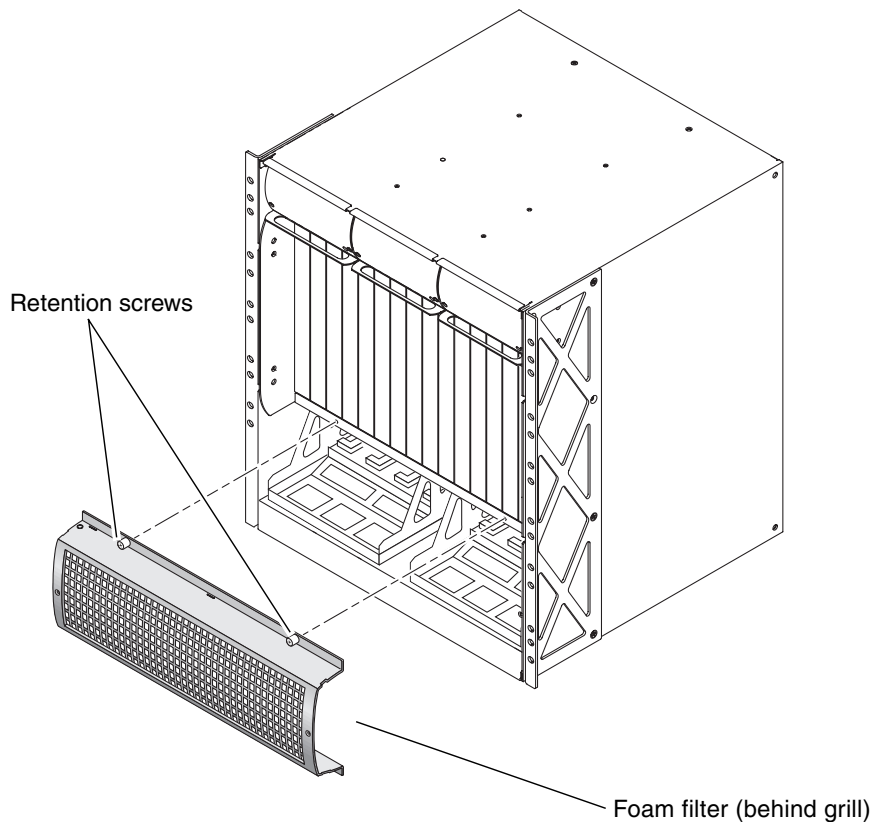

FIGURE 6-4 Intake Grill and Air Filter
1. Unscrew the two retention screws at the top of the air intake grill (FIGURE 6-4).